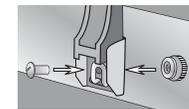

Figure 3.
Step 6: Using attaching hardware found in the parts bag, take one large bolt PN# LS-501 and one large thumb nut PN# LTN-501. Slide large bolt through the round hole, capturing the loop, handle bracket and the food rack cover. Thread the nut onto the large bolt from the opposite of the food rack and tighten (Figure 3).